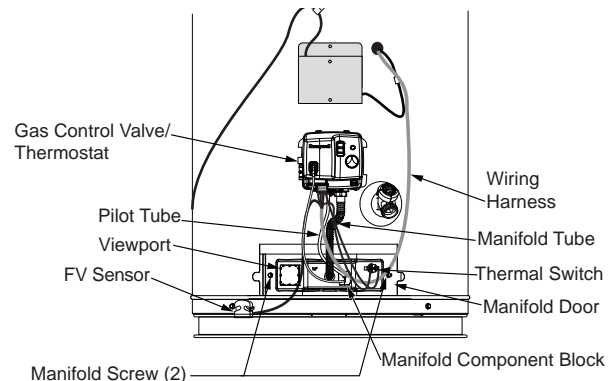

FIGURE 27.
4. Remove the two screws (1/4" nut driver) securing the manifold door assembly to the combustion chamber (Figure 27).
2. Move the ON/OFF switch on the gas control valve/thermostat to the "OFF" position to turn off the water heater and unplug from the wall outlet. (Figure 27).